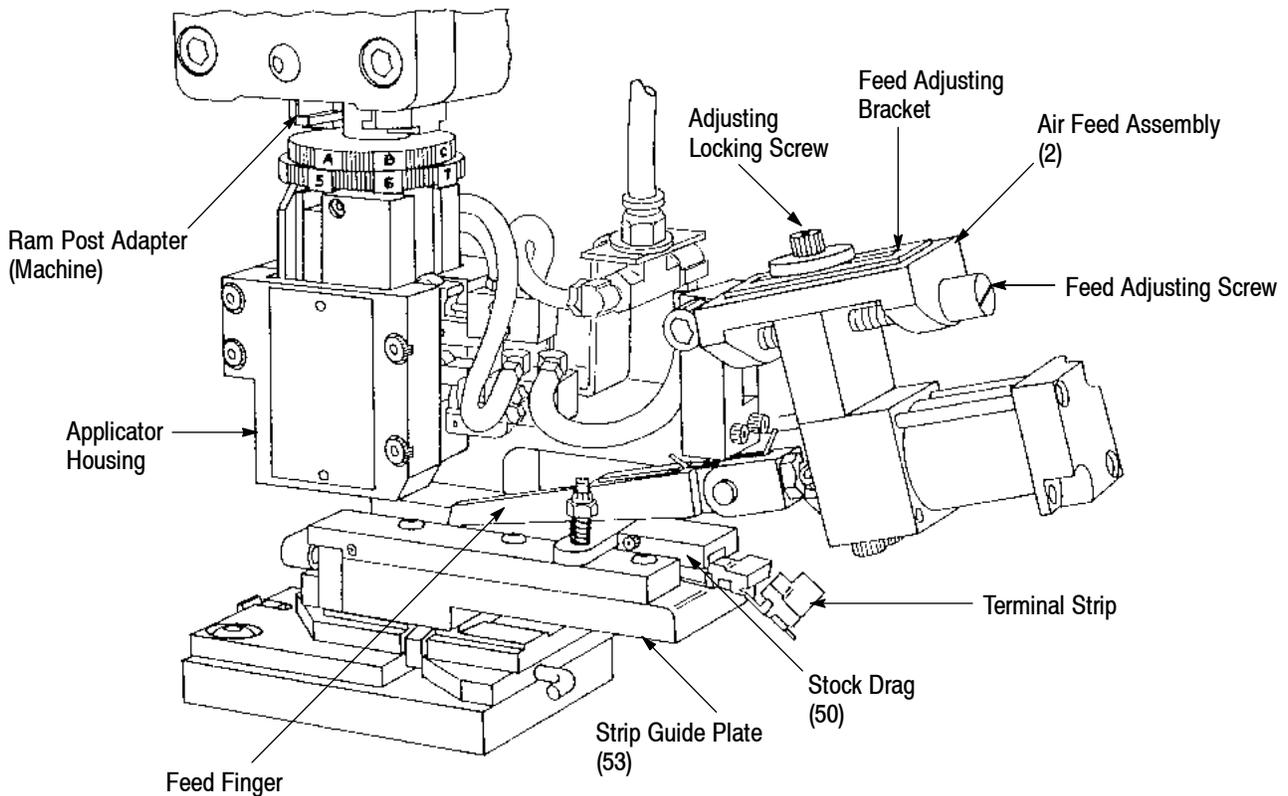
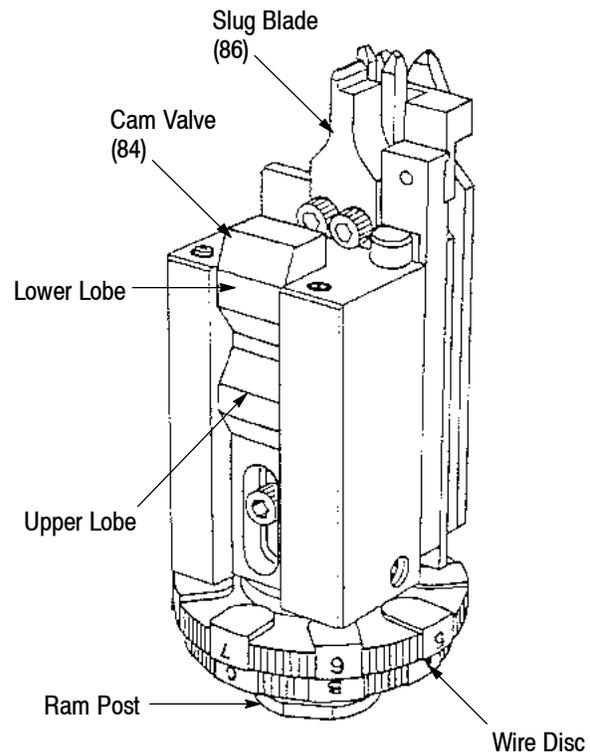

Figure 6
Figure 7
The top of the ram contains the ram post that connects the applicator to the ram post adapter of the machine. On the ram post is a wire disc containing up to four pairs of pads, each pair of a different height. The desired crimp height is produced by rotating the wire disc to align a pair of pads with the lobes on the bottom of the machine ram post adapter. See Figure 7. Directly above the wire disc is a wave spring washer. Directly beneath the wire disc is a ram spacer and a laminated washer or a solid shim. The laminated washer provides a means of fine adjustment to compensate for machining tolerances within the applicator to produce correct crimp height with a preset shut height.
3. Raise terminal drag, then feed the terminal strip into the applicator between strip guides (see Figure 6).
4.5. Terminal Strip Feed Adjustment (Figure 6)
4.7. Slug Blade Adjustment (Figure 7)
1. With the ram bottomed, loosen the locking screws holding the slug blade (86) to the ram.
2. Loosen the 4 screws securing the strip guide plate (53), to the base plate and move it forward or backward until the slug blade enters between the front and rear shears. See Figure 6.
2. Rotate the applicator wire disc (upper disc, see Figure 7) to align selected pad letter with bosses on machine ram post adapter (see Figure 6). This will provide proper crimp height for that wire size.
5.3. Slug Blade Replacement (Figure 7)
4. Install the new slug blade (86) by reversing the removal procedure. BE SURE the part number agrees with the part numbers on the parts list. See Figure 7.